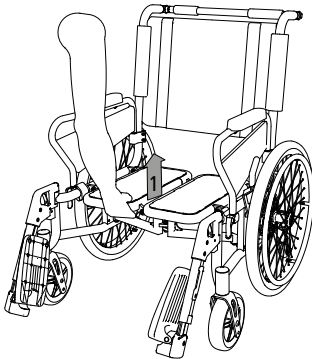

Fig. 29
5. Now stand in front of the wheelchair and then pull upwards in the middle of the seat. The seat cushions are angled slightly upwards (1, Fig. 29).